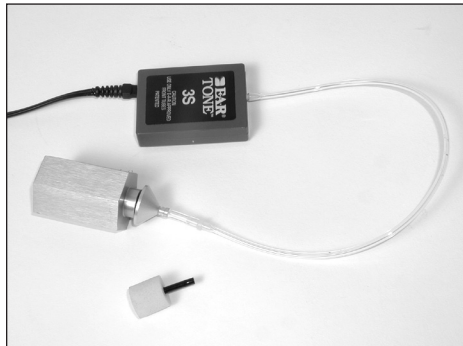

Figure C-7—Insert earphone connected to ear level adapter and HA-2 coupler
2. Plug the other end of the insert earphone into the tubing of the ear level adapter attached to an HA-2 coupler. See Figure C-7.